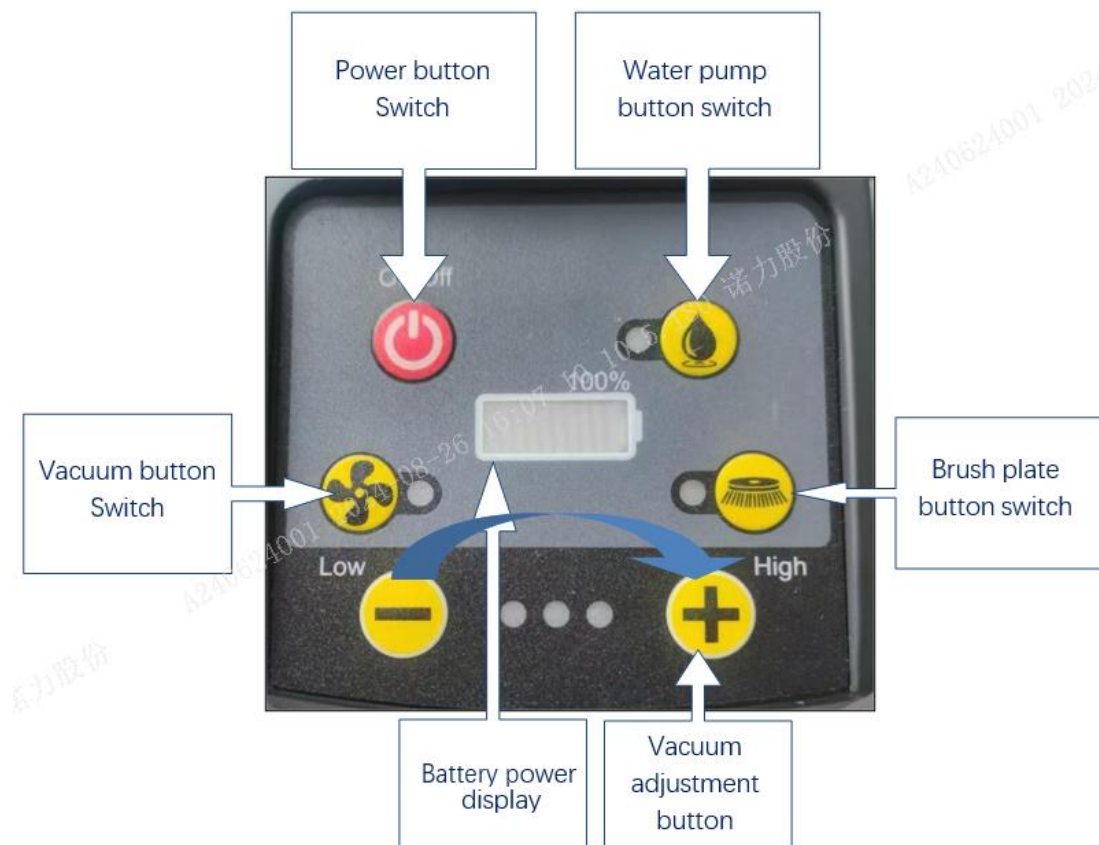

FIG.6
5. Choose your cleaning mode via the mode buttons/switches as shown in FIG.6 after pressing down the main On/Off switch first at the rear side of the control panel as shown in FIG.6, meanwhile, the battery indicator will illuminate.